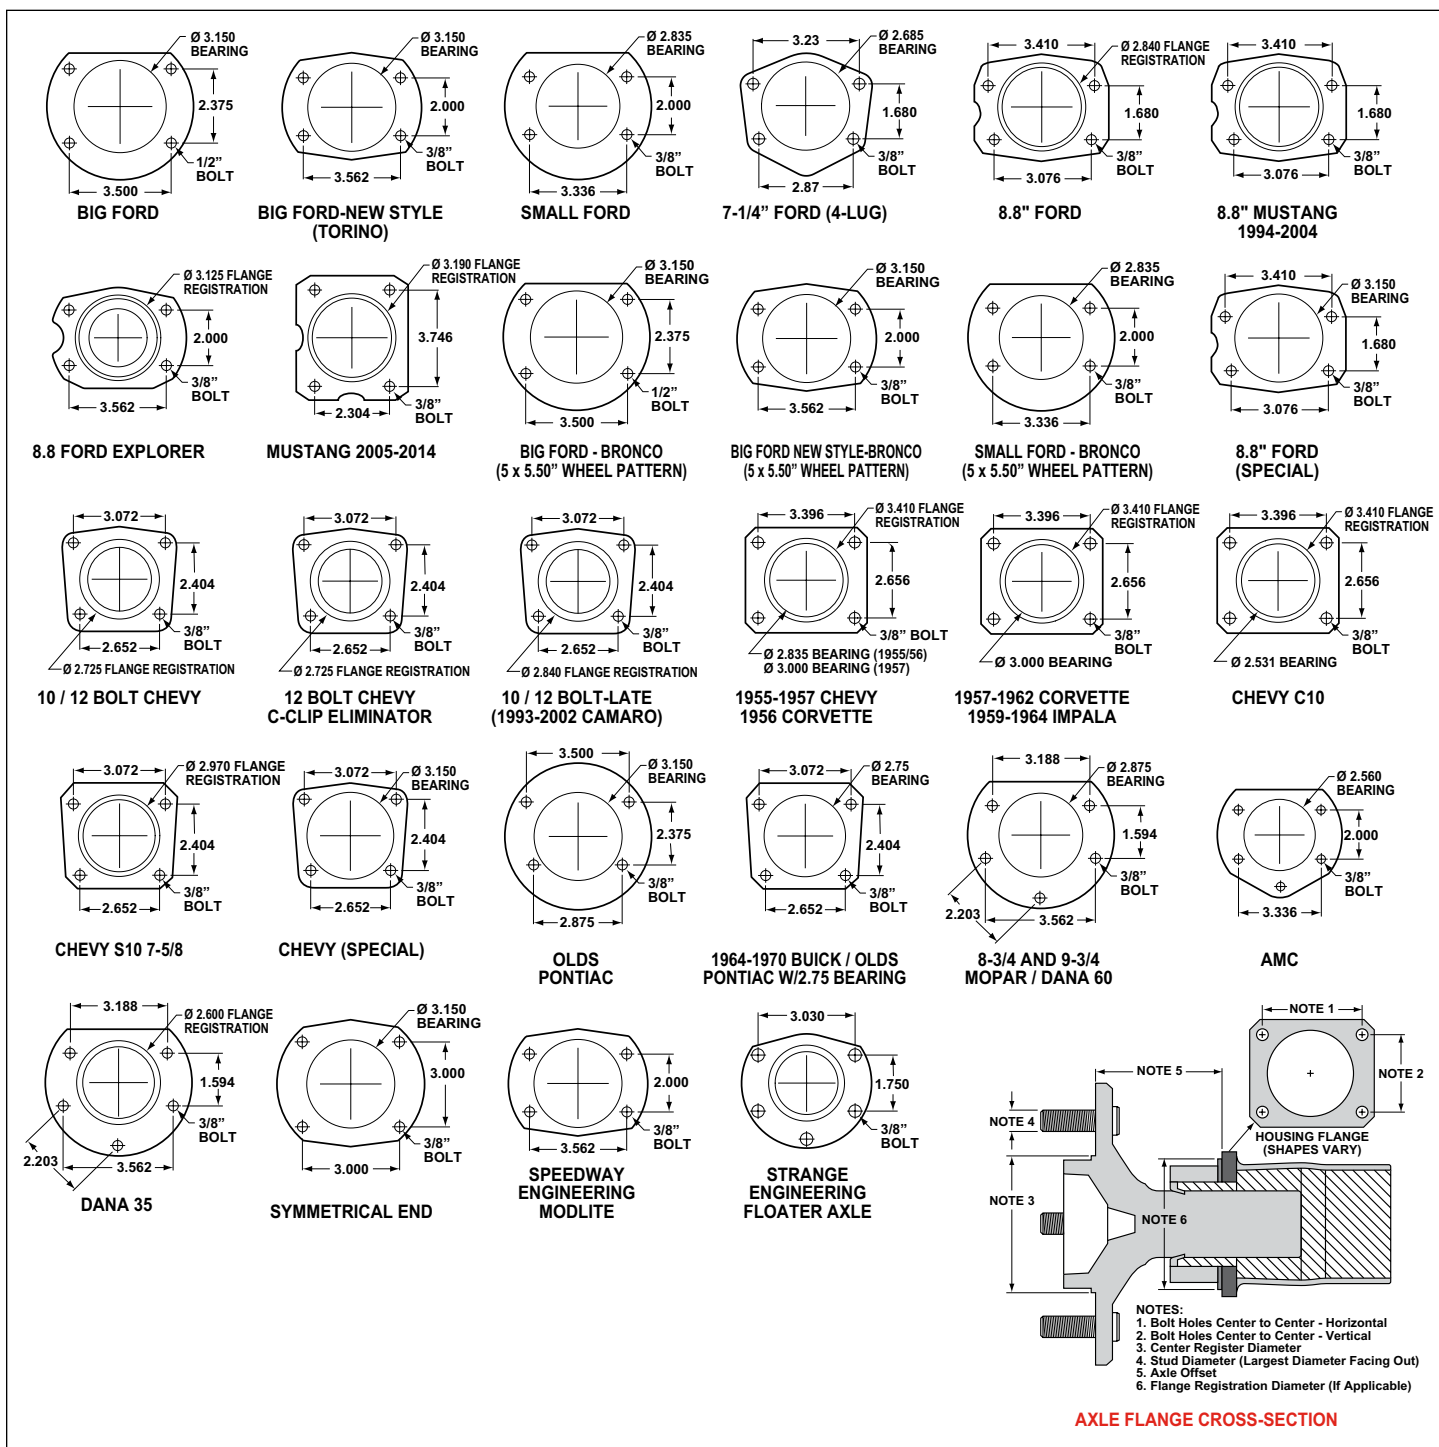

Figure 6. Rear Housing Flange Chart and Axle Flange / Offset Cross-Section
- Make sure this is the correct kit to fit the axle housing flange, not necessarily the rear end make. Many times after market manufacturers put a different make of axle housing flange on the stock rear end housing (see Figure 6). Example; Big Ford rear ends with Olds-Pontiac flanges, therefore, an Olds-Pontiac rear disc brake kit would be the correct kit to order. Also, shock clearance may be a problem. They may have to be modified and/or relocated to clear the Wilwood kit after final assembly.
- Dimension from wheel side of axle flange to wheel side of axle housing flange (see Figure 6, lower right hand corner). This dimension is critical to ensure proper alignment of the rotor to the caliper, and should match offset given in the kit description.